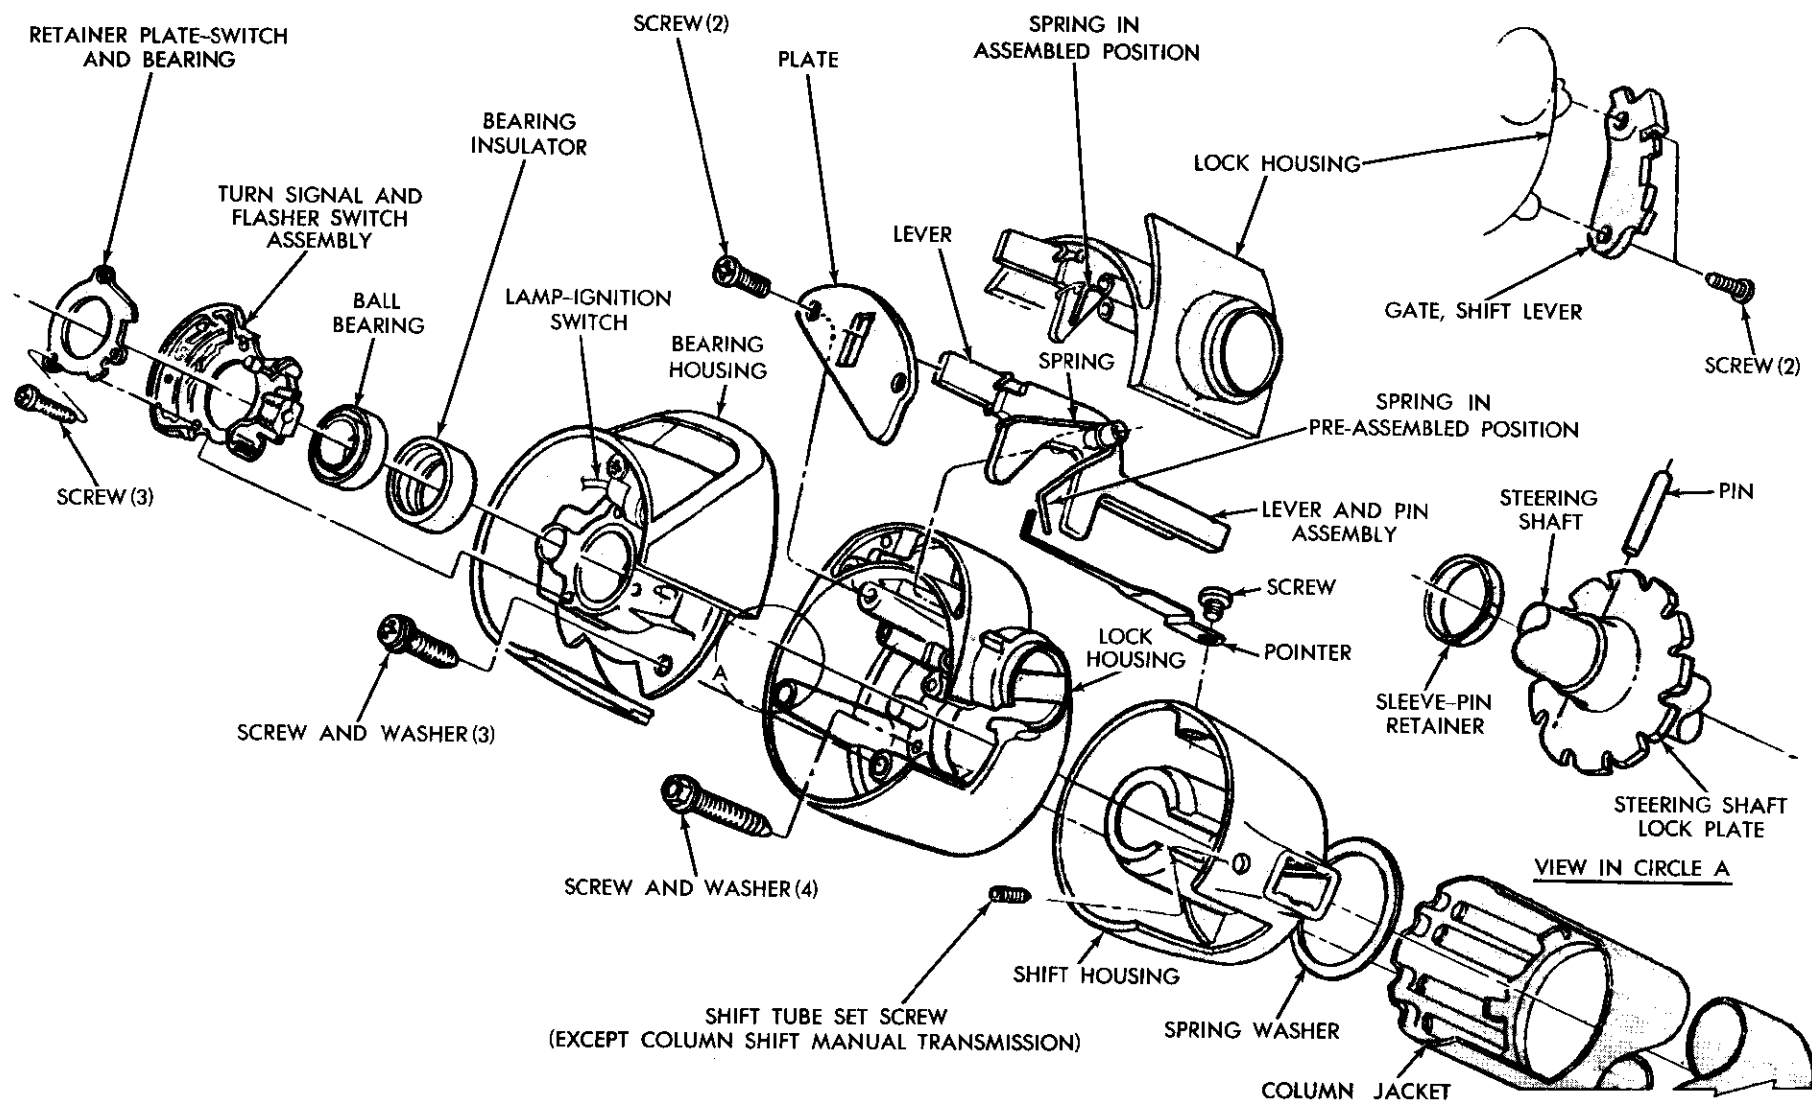

Fig. 21—Steering Column Upper End—Disassembled (With Quadrant)
(8) Install and tighten to 35 in.-lbs. the 3 bearing housing to lock housing screws.
(9) Carefully install the ignition key lamp assembly in the bearing housing (2 screws).
(10) On column shift automatic only, position pointer under indicator quadrant and tighten attaching screw to shift housing (Fig. 21).
(11) Install the wiring trough in place over the wires, being careful to not pinch wires between trough and jacket.